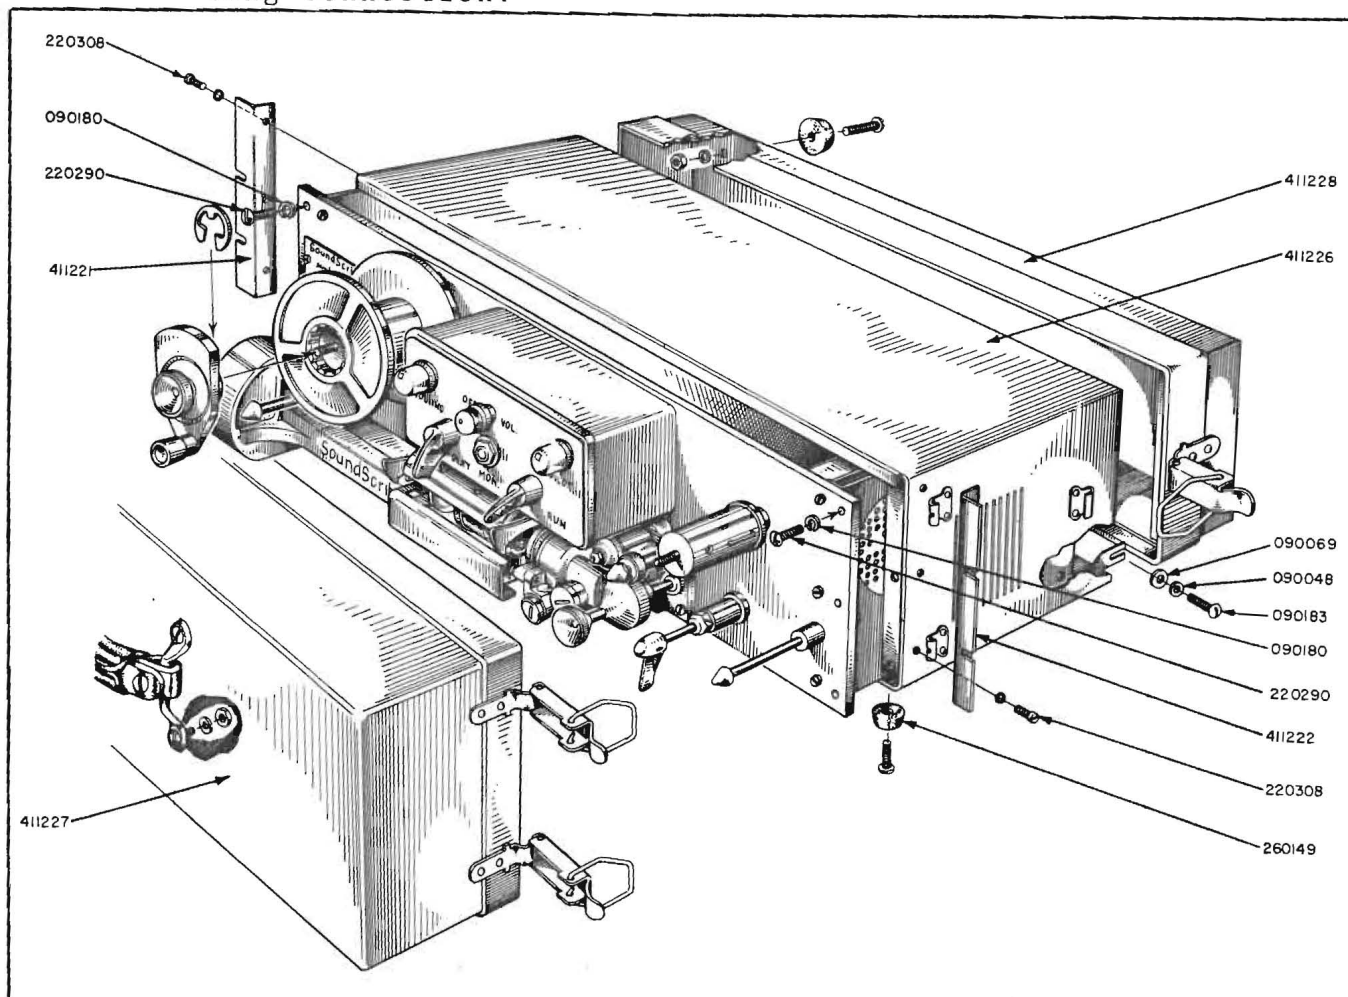

FIG. 15. Complete Machine And Cabinet Assembly
4. Mechanical and Electrical Chassis Assembly (Figure 15).